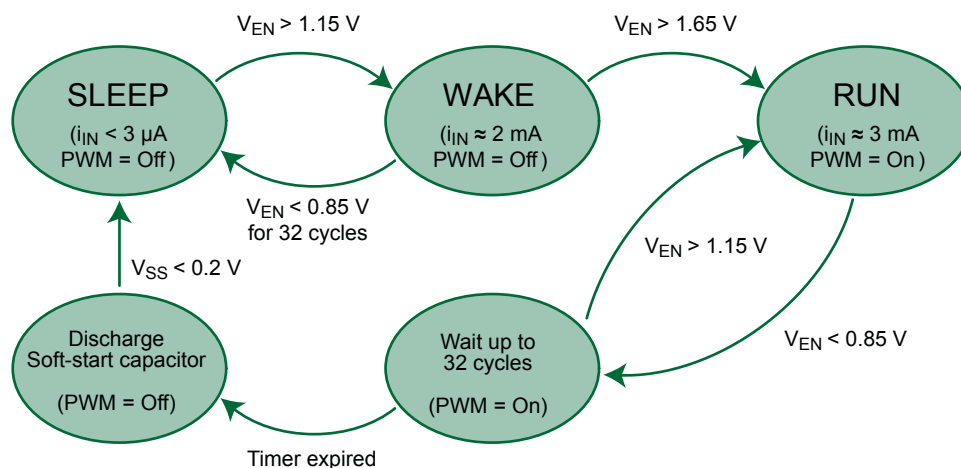

Figure 3. EN/SYNC voltage and A8582 operating modes
- A simple logic input. If EN/SYNC is a logic low ($V_{EN/SYNC} < V_{ENIL}$), then the A8582 and VOUT will be off. If EN/SYNC is a logic high ($V_{EN/SYNC} > V_{ENIH}$), the A8582 will turn on and, provided there are no fault conditions, soft start will be initiated and VOUT will ramp to its final voltage in a time set by the soft start capacitor (CSS). (The operating modes of the A8582 based on EN/SYNC voltage are summarized in figure 3.)
The A8582 protects itself from over-heating, with an internal thermal monitoring circuit. If the junction temperature exceeds the upper thermal shutdown threshold (T_{TSD} , nominally 165°C) the voltages at the soft start and COMP pins will be pulled to GND and both the upper and lower MOSFETs will be shut off. The A8582 will stop PWM switching and stay in WAKE state (see figure 3). It will automatically restart when the junction temperature decreases more than the thermal shutdown hysteresis (T_{TSDHYS} , nominally 20°C).